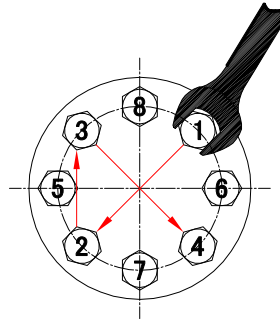

Figure 3 Order for tightening bolts
- Bolts connected with flange must be screwed alternately, diagonally and evenly when the strainer is connected with pipe. See figure 3.
- Cover bolts connected with body flange must be screwed alternately, diagonally and evenly. See figure 3 same as connecting pipe flange. Since the sealing material is rubber gasket, it does not need large tightening torques. Please refer to the values in Table 1.